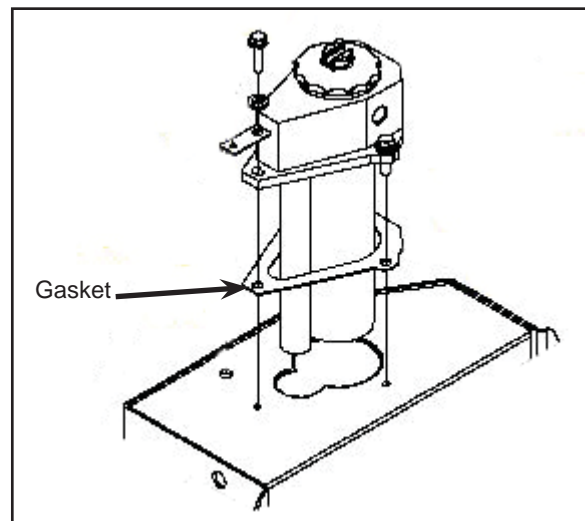

Figure 4 - Filter Housing Gasket to be Discarded
- 1.6. Remove the filter housing from the tank and discard the gasket. See Figure 4.